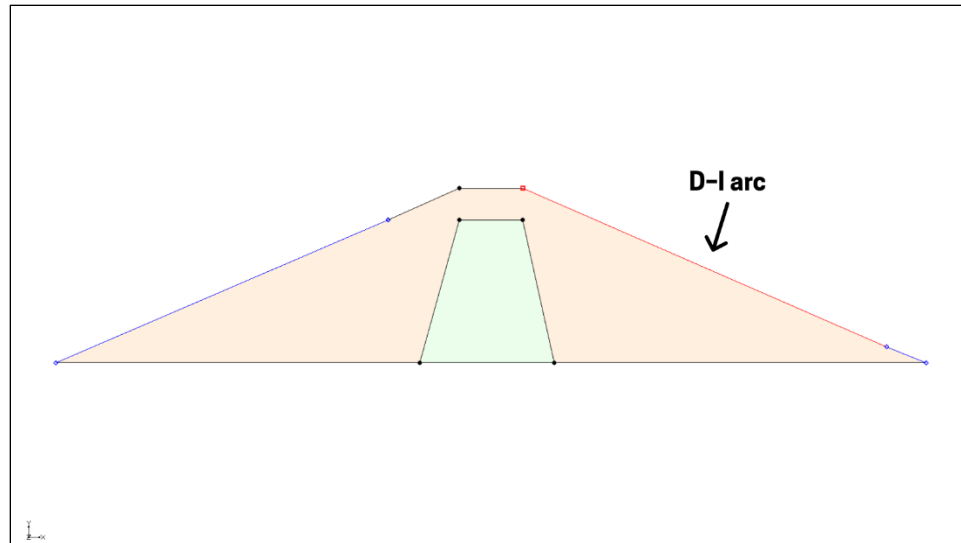

Figure 7 Exit-face boundary
1. Using the **Select Arcs**  tool, double-click on the D-I arc on the upper right (Figure 7) to bring up the *Attribute Table* dialog.